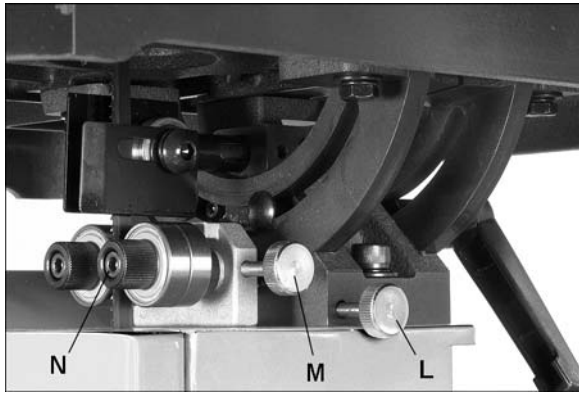

Figure 27
Refer to Figures 27 and 28.
Movement summary: Loosen lock knob (L) to move guide bracket. Loosen lock knob (M) to rotate side bearing, using knurled knob (N). Loosen lock ring (O, Figure 27) and rotate knob (P) to adjust thrust bearing in relation to blade.